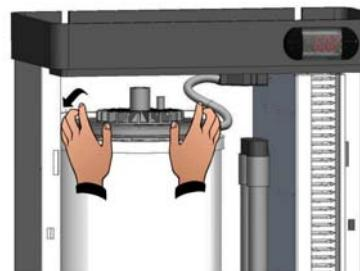

Fig. 30
- Release the rear fixing spring of the upper steam flange making it slide outside the cylinder (Fig. 30).